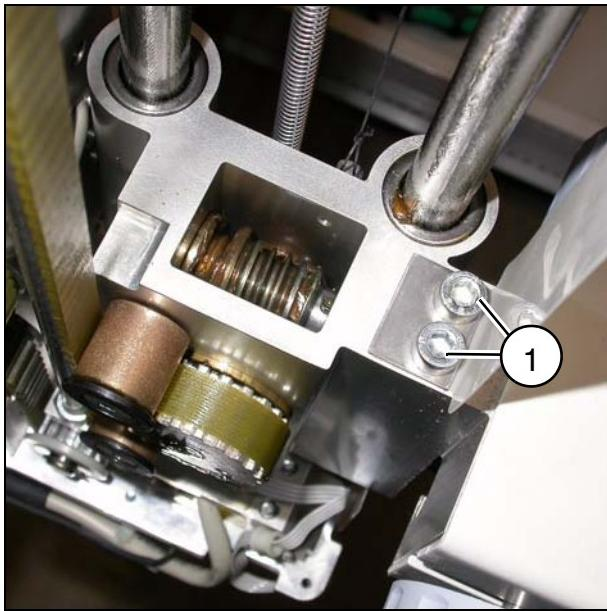

Fig. 1
- Remove curtain / filmstrip from the top of the slide by unscrewing the two hex socket head (Allen) screws holding the little plate (1/Fig. 1).